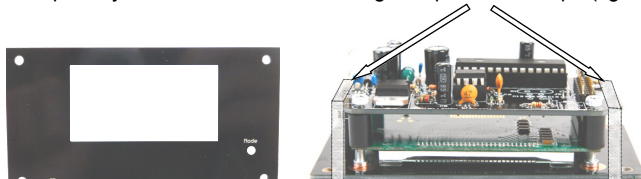

Fig.2
3. Position the unit onto the rear of the front panel with the display is centred in the cut-away. Temporarily fix the unit to the rear using non-permanent tape (fig. 2).